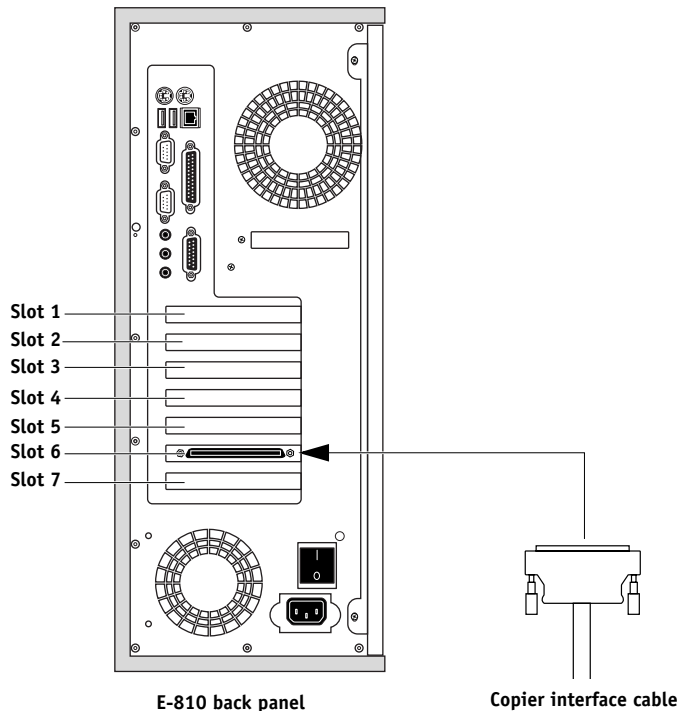

FIGURE 3-2 Copier interface connection
2. Connect one end of the copier interface cable to the interface connector on the copier and the other end of the cable to the E-810's copier interface connector (see Figure 3-2 below).